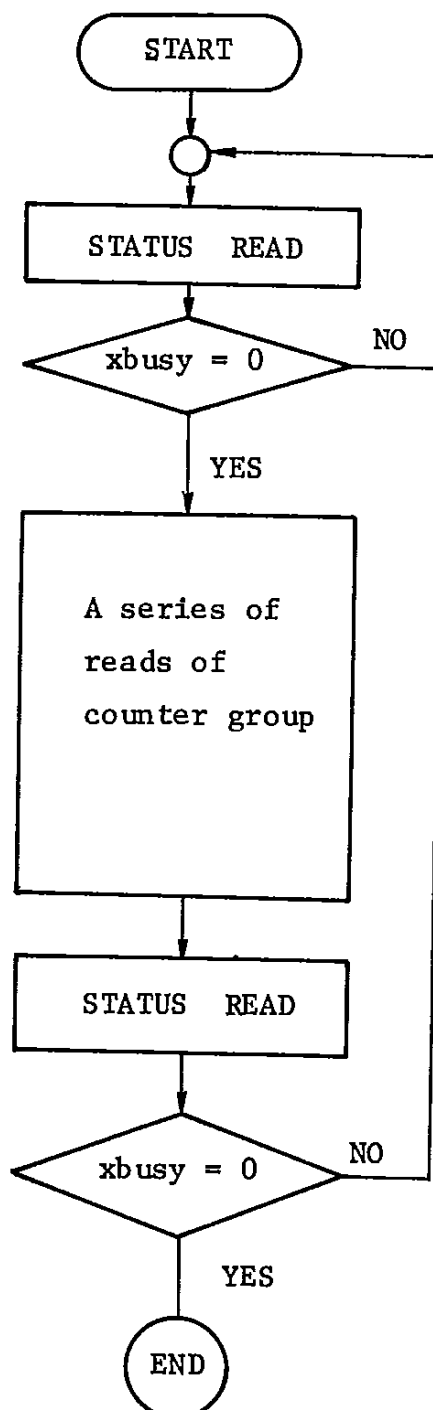

Fig. 5.4 Program Flow (2)
- (2) When a series of counter reads requires more than 91 usec, the "xbusy" flag is used. This is such an occasion, for instance, where time data such as year, month, day, day of week, hour, min., sec., are all taken in. At this time, if clock count pulses are inserted during read, data before and after the pulse insertion may become wrong. The way of checking "xbusy" flag to detection the clock count pulse is effective. As the clock count is occurred once per second, even if the first trial is not good, next trial is surely successful. (Note = It is assumed that a time for a series of reads is sufficiently shorter than one second.) The program flow at this time is shown in Fig. 5.4.